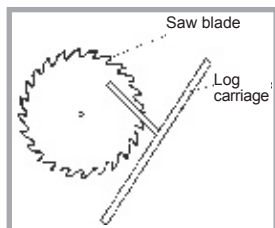

Fig. 4
- Fit the new blade on the shaft. Note direction of rotation. All tools must always work against the feed direction that is revolutions must occur towards the operator's station. (see Figure 4)